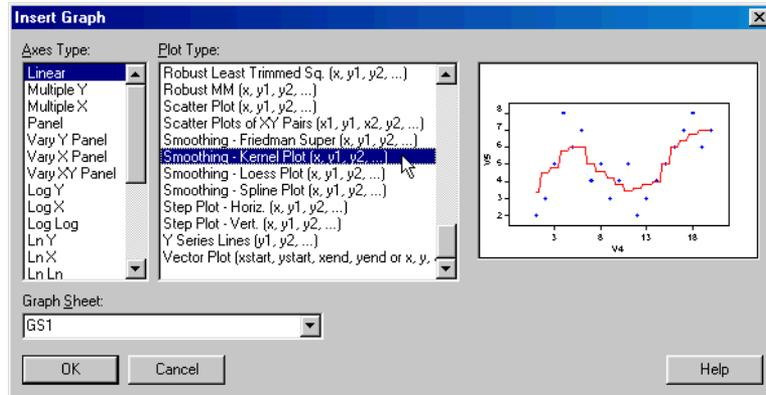

Figure 3.13: *The Insert Graph dialog.*
6. In the **Plot Type** list box, select **Smoothing - Kernel Plot** and click **OK**, as shown in Figure 3.13.